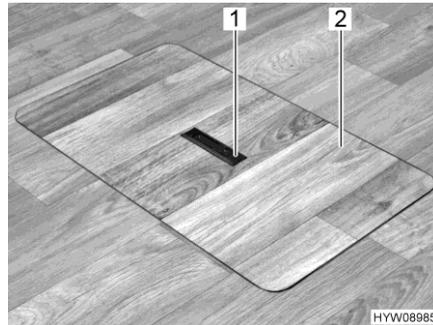
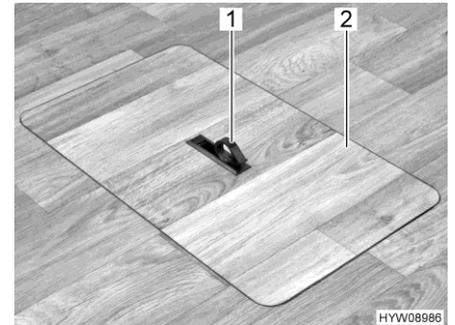

Fig. 45 Floor storage compartment cover (handle recessed)
Fig. 46 Floor storage compartment cover (handle swung out)
- Push one side of the grip plate (Fig. 45,1) downwards. The handle (Fig. 46,1) swivels upwards.
- Remove the cover (Fig. 46,2) upwards.
- Insert the cover (Fig. 46,2) in the frame on the floor.